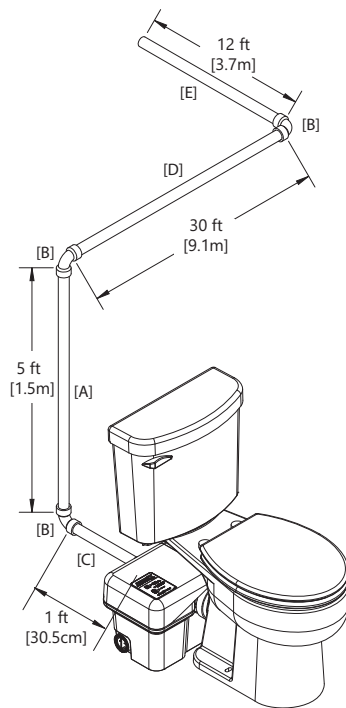

Figure 2. Example Calculations
**For example:** 1" Schedule 40 PVC pipe is used for the discharge and runs horizontally for 1 ft, then turns 90°, and rises 5 ft vertical. Then it travels horizontally with another 90° turn (3 turns in total) and connects with the soil-stack. Refer to Figure 2.